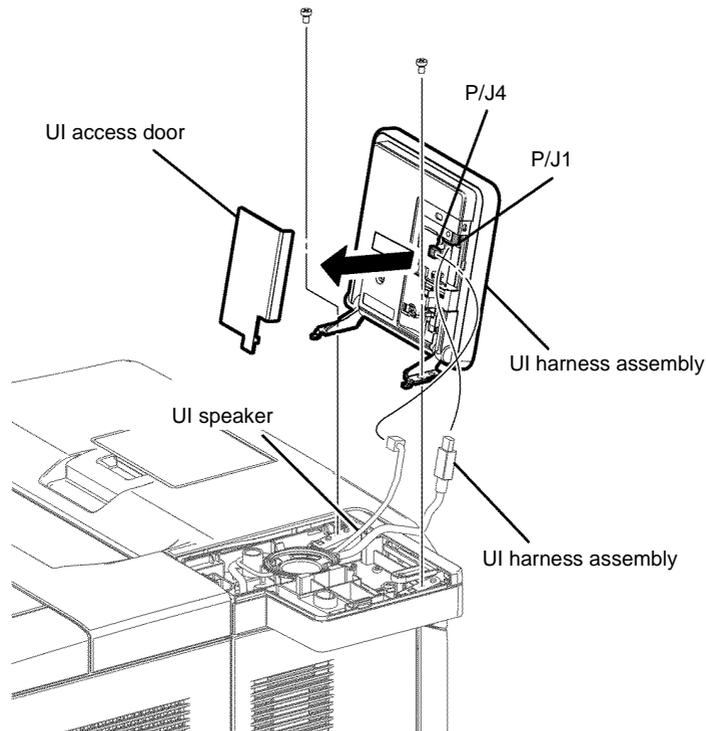

Figure 2 UI console assembly removal
2. Slide the UI access door in the direction shown, then remove it from the UI console assembly, Figure 2.
3. Disengage P/J1 of the UI harness assembly, Figure 2.
4. Disengage P/J4 of the UI speaker, Figure 2.
5. Remove two screws (silver, M4, 6mm), then remove the UI console assembly, Figure 2.